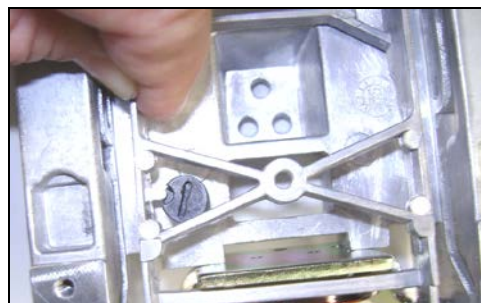

Figure 3-64. Installing Ratio Beam, clearing the Up/Down Stop Screw.
2. Insert the Ratio Beam into the Load Cell frame. (See Figure 3-64.)